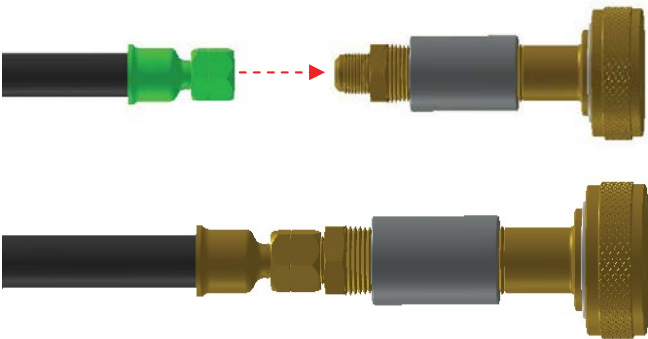

Figure 4
- 4) Connect service evacuation hose to the liquid evacuation adapter. **Torque: Fully Seated Not Stripped, Not Leaking. Figure 4**